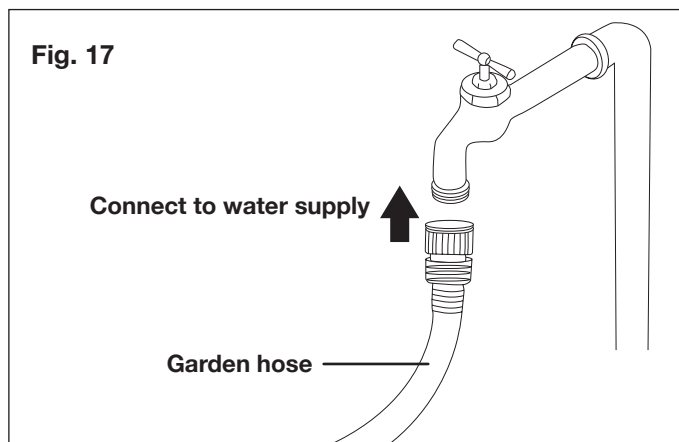

Fig. 17
13. Attach garden hose to water supply (Fig. 17).